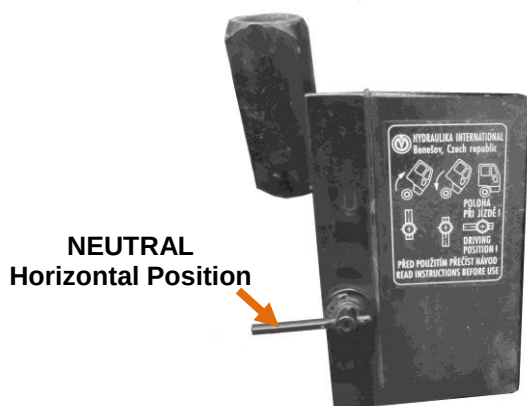
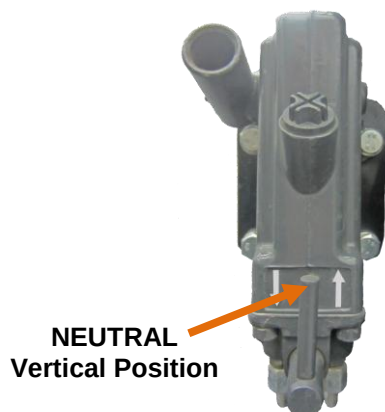

Figure 6.1
Figure 6.2
- ✓ Lock and secure cab tilting locks at behind passenger side cabin. (Early model cab tilting valve Figure 6.1, later model Figure 6.2). **NOTE:** Failure to position valve in **NEUTRAL** position will lock cab suspension.